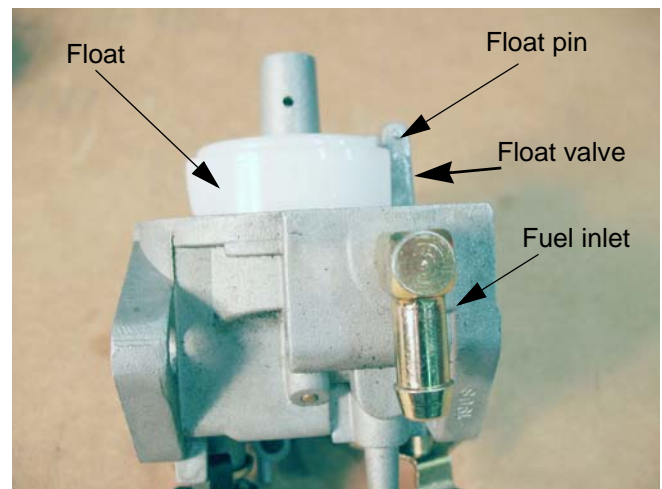

Figure 4.13
7. When inverted, the float should rest in a level position. See Figure 4.13.